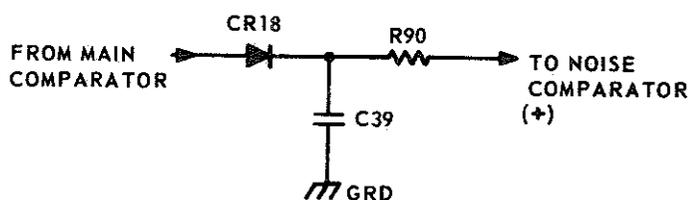

Fig. 11 - Noise Threshold Booster Configuration
3.32 The noise threshold booster (Fig. 11) applies a delaying signal to the (+) (noise) input of the noise comparator when the main comparator switches from high to low output (receive to transmit). This signal keeps the noise comparator output high (standby) for a short time following the termination of a signal from the line and hence prevents room echoes from causing the unit to switch to full transmit before reverting to standby. The delay is sufficiently short that it does not interfere with normal interruptions in the conversation.